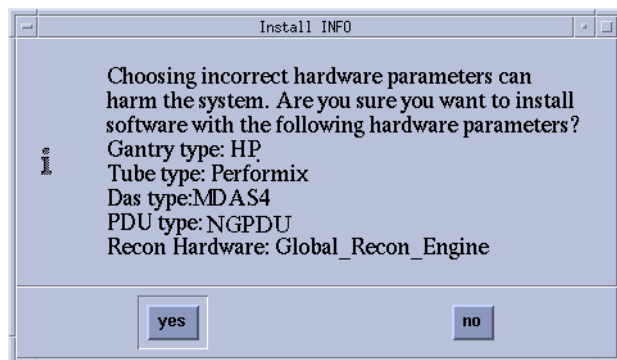

Figure 1-9 Hardware Confirmation Screen (Example - LightSpeed Plus SDAS Shown)
- 37.) An Install INFO pop-up box is displayed. See Figure 1-9 for a typical Install INFO message (the Install INFO message is different for each system configuration).